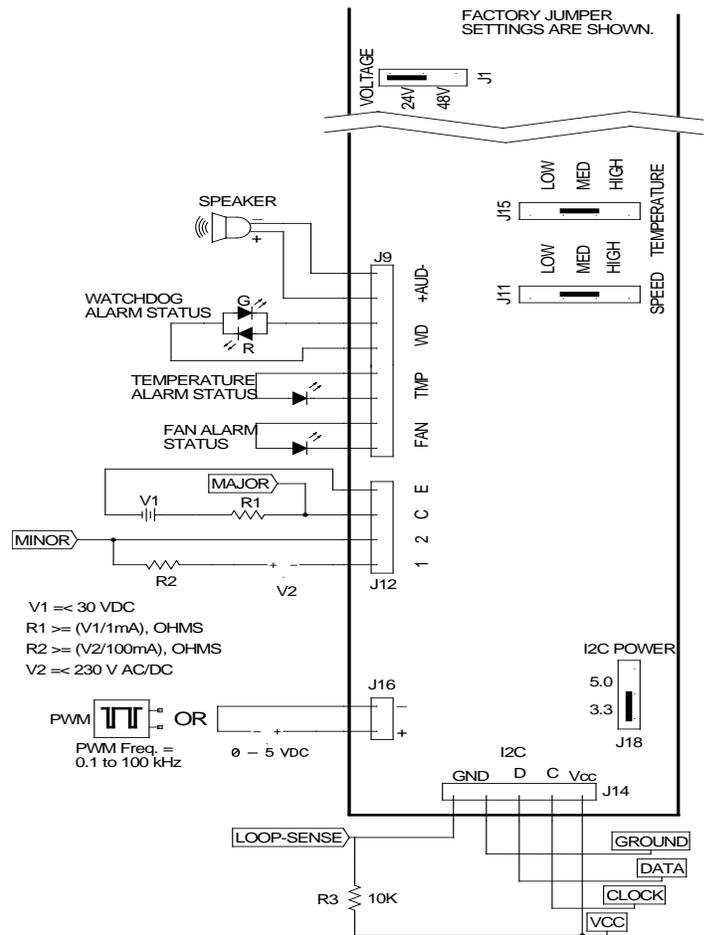

Figure 3.0: Connection diagram for alarm circuitry, I2C bus and PWM/0-5 VDC input.
0-5 VDC or PWM Control Signal: The Multi SR can proportionally control fan speed based on a PWM or 0-5 VDC control signal. Chart 2.0 shows the relationship between the fan voltage and the control signal input. Referring to figure 3.0, connect the voltage signal to header J16. Header J16 is internally pulled up to VCC with a 47.5k resistor. The voltage applied to J16 must be limited to the isolated VCC. The PWM frequency range is 0.1 to 10 kHz.
Control Signal Power: If the Multi SR was ordered with the Isolated Power option (see table 1.0), the Multi SR will power this interface. Otherwise, the isolated power must be provided at the VCC & GND pins at header J14 (see figure 3.0).
Fan Control and/or Alarm Status Communication on the I2C Bus: The Multi-SR can monitor alarm status and control the fan voltage via an I2C Bus. Referring to Figure 3.0, connect serial clock, data, VCC and ground lines to header J14.
Header J9 provides local indication of fan (FAN), temperature sensor (TMP) and watchdog (WD) alarm status. Referring to Figure 3.0, connect alarm LEDs and/or an audible alarm to header J9. **All alarm circuits on header J9 are non-isolated from input power (J13).** Choose single color LEDs or two leaded, bi-color LEDs with a rated forward voltage (V_f) between 1.6 and 2.4 VDC at a forward current (I_f) of between 15 and 25 mA. Nominal current applied to the LEDs is 8 mA. The audible alarm output (+AUD-) provides up to 20 mA at 5 VDC and is fused with a 0.062 Amp fuse. Choose an audible alarm rated 100 mW at 5 VDC.
Two optically isolated logic circuit outputs are on header J12 to provide remote indication of alarm status. Referring to Figure 3.0, connect logic circuits to header J12. Both alarm outputs must be current limited as shown in Figure 3.0. The output of C-E, considered a major alarm indicator, is from an open collector phototransistor. The output of I-2, considered a minor alarm indicator, is from a MOS relay.
Alarm logic for the optically isolated major and minor alarms on header J12 is shown in Table 7.0. The values in the table are based on the circuit configurations shown in Figure 3.0.